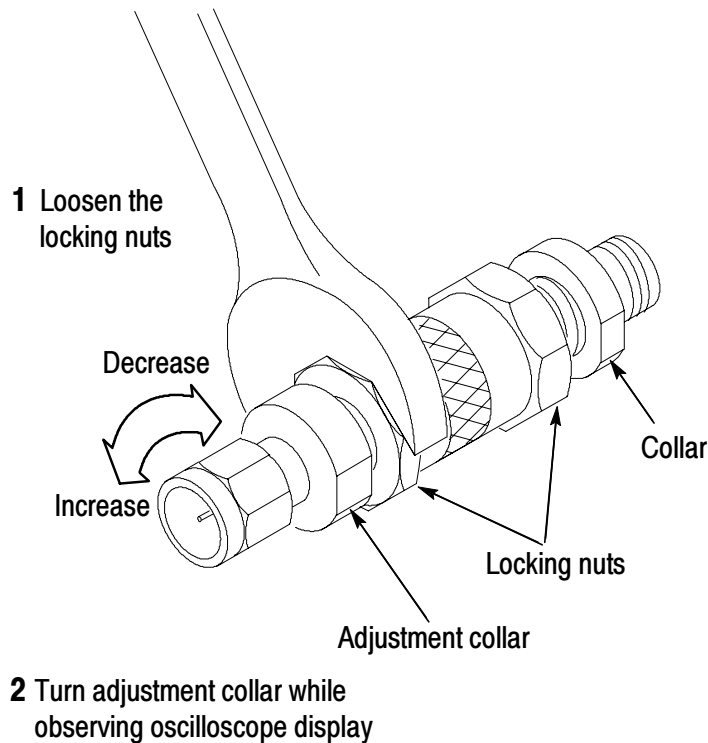

Figure 17: Using the phase adjuster
6. On the cable with the longer delay, loosen the phase adjuster locking nuts, set the phase adjuster to minimum delay (shortest length), and secure the locking nuts. See Figure 17 on page 34.